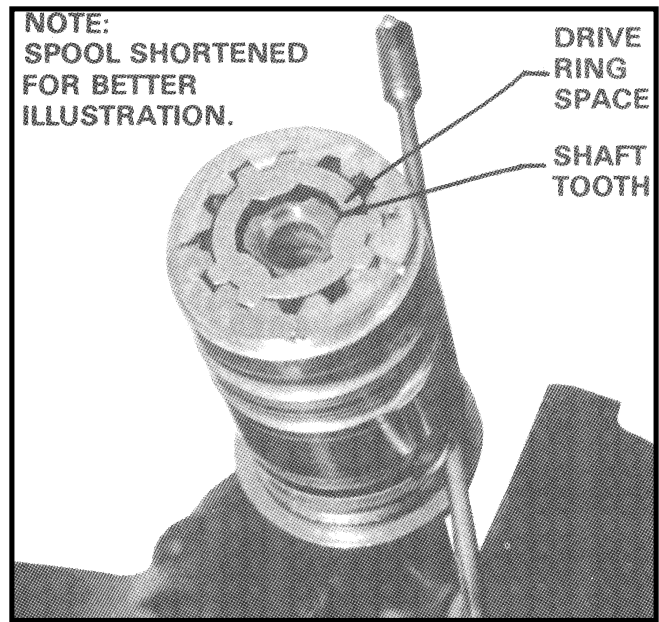

Figure HGA-18
10. Insert the drive ring (18) into the spool (22) end by visually aligning an internal space on the drive ring with a tooth on the input shaft (16) split, and allow the drive ring to drop to the limit of its travel. If the drive ring does not engage the input shaft spline, a slight rotation of the input shaft will allow the drive ring to become fully engaged. Remove torsion bar (20) gage. (See Figure HGA-18).